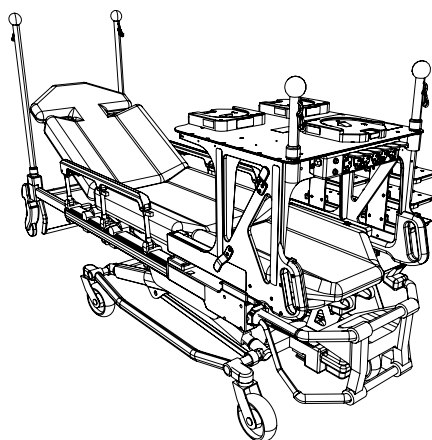

Figure 51: Mobile structure installed on the XTPA-PPXT Rail System
25. Align and install the mobile structure on the XTPA-PPXT Rail System (Figure 51).